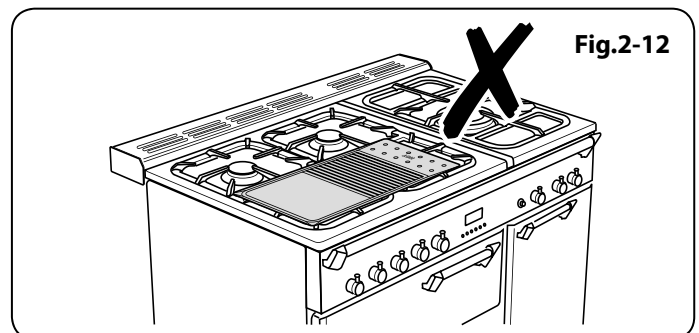

Fig.2-12
**⚠ DO NOT put it crossways – it will not fit properly and will be unstable (Fig.2-12).**